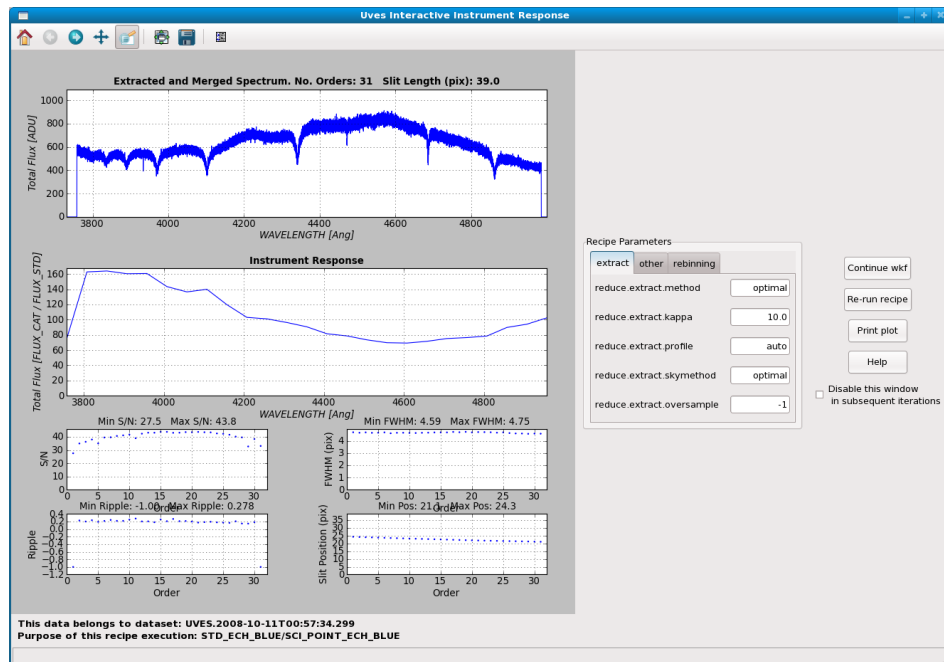

Figure 7.3: The interactive window for the Instrument Response actor.
- Instrument Response:** The standard DataSets supplied with Reflex 2.3 do not include standard star observations. Hence the Instrument Response actor will not be executed, and the corresponding interactive window will not appear. In Figure 7.3 we show what this interactive window looks like. The usage and purpose of the Instrument Response interactive window are the same as for the Spectrum Extraction interactive window which we describe in detail in the next few steps, and so no more information on this window is given here in the tutorial.